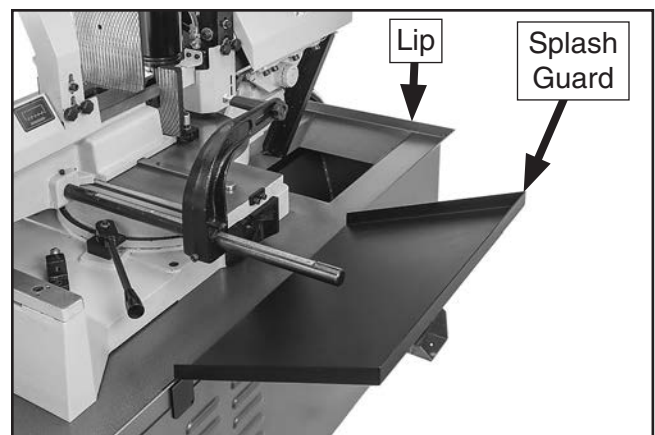

Figure 17. Splash guard installed over lip of base.
5. Fit splash guard over lip of base, as shown in **Figure 17**.